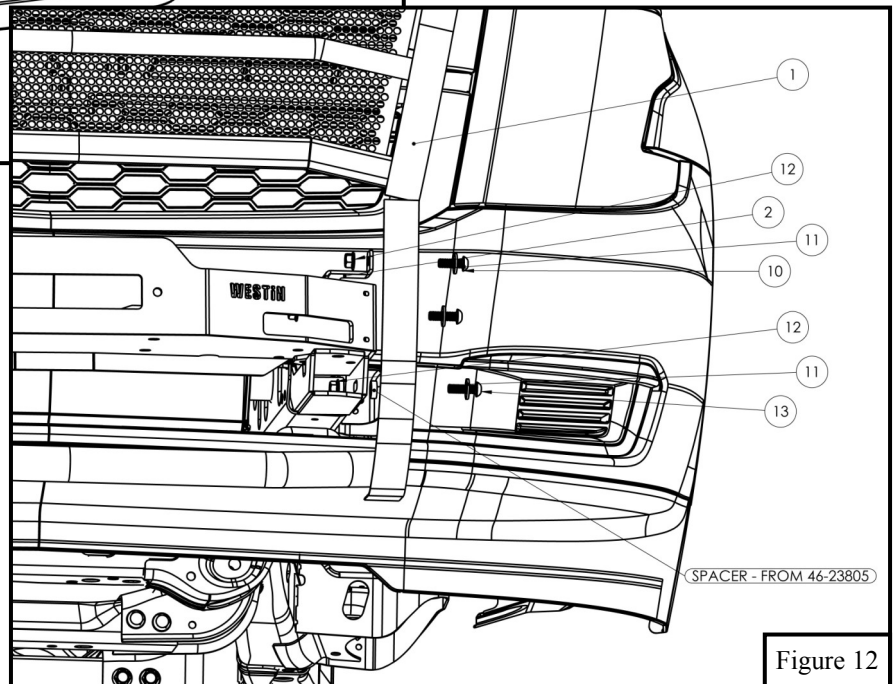

Figure 12
- If using the Push Bumper in conjunction with the 46-23805 Winch Tray Kit (sold separately) attach the Push Bumper to the Winch Tray and Winch Tray Mounting Bracket using (4) M12 X 40 Hex Socket Button Head Screws (item 13), (4) M12 Cupped Washers (item 11) and (4) M12 Serrated Flange Nuts (item 12). Two Spacers (included with the 46-23805) need to be positioned, one per side, between the Winch Tray Mounting Bracket and the Push Bumper. Refer to Figure 12.